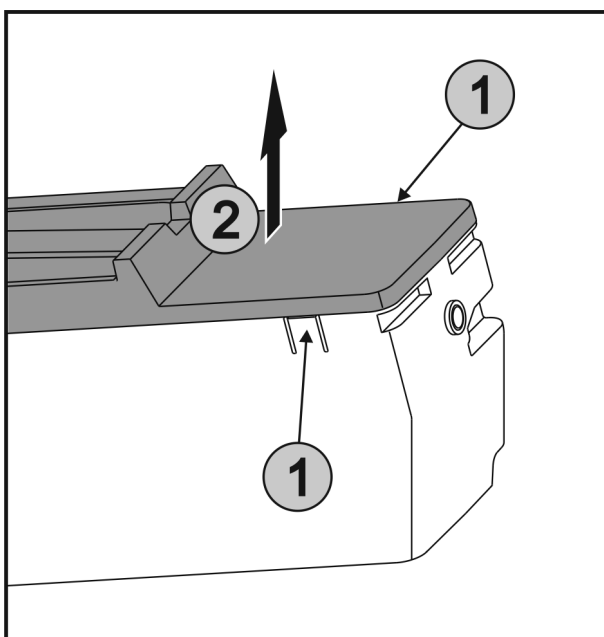

Fig. 39
- ▶ Press the lugs Fig. 39 (1) on both sides of the EasyTwist-Ice simultaneously and take off the cover Fig. 39 (2) upwards.